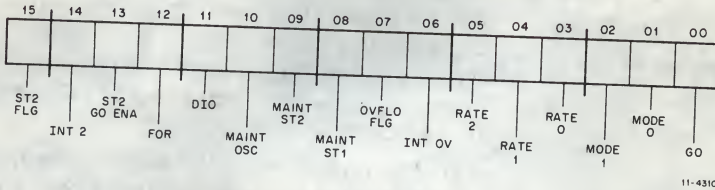

Figure 7. CSR Bit Assignments
**CSR Bit Assignments** — CSR bit assignments are identified in Figure 7 and defined in Table 2.